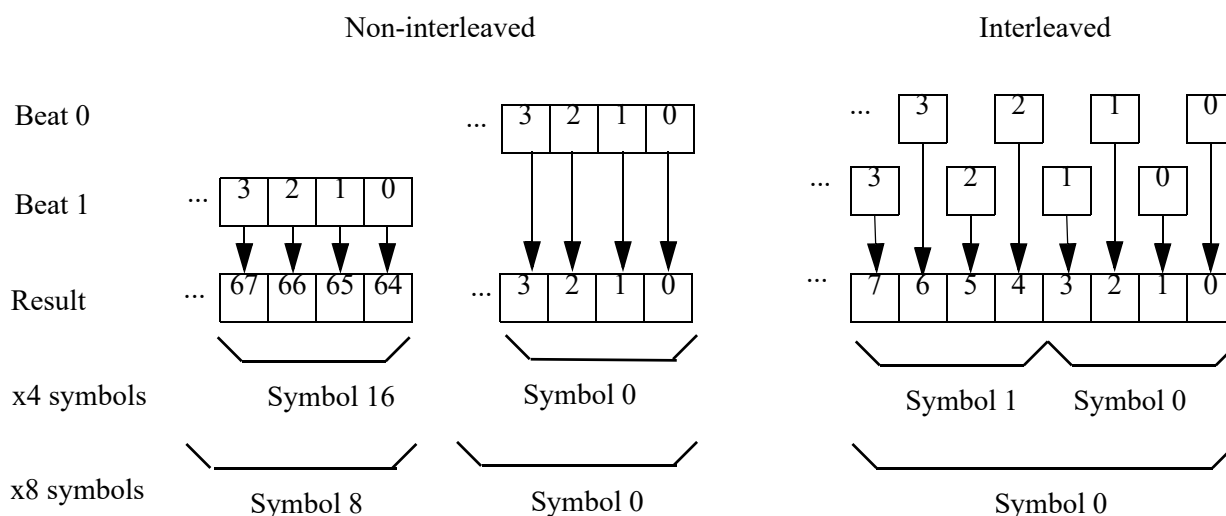

Figure 9: Example of Line Interleaving from x4 DRAM Using x4 and x8 ECC
- DRAM device width refers to the number of bits sourced simultaneously from a single memory chip. For example, a x4 device contributes 4-bits to the ECC word on each beat of data. In Figure 9, eighteen devices, representing one rank, contribute 72-bits on each beat.
- DCT data interleaving refers to the way bits from the two memory beats are organized to form an ECC word. When specified by D18F2x110[DctDatIntLv], even and odd bits from the two 72-bit beats can be interleaved to create the 144-bit ECC word as shown in Figure 9.